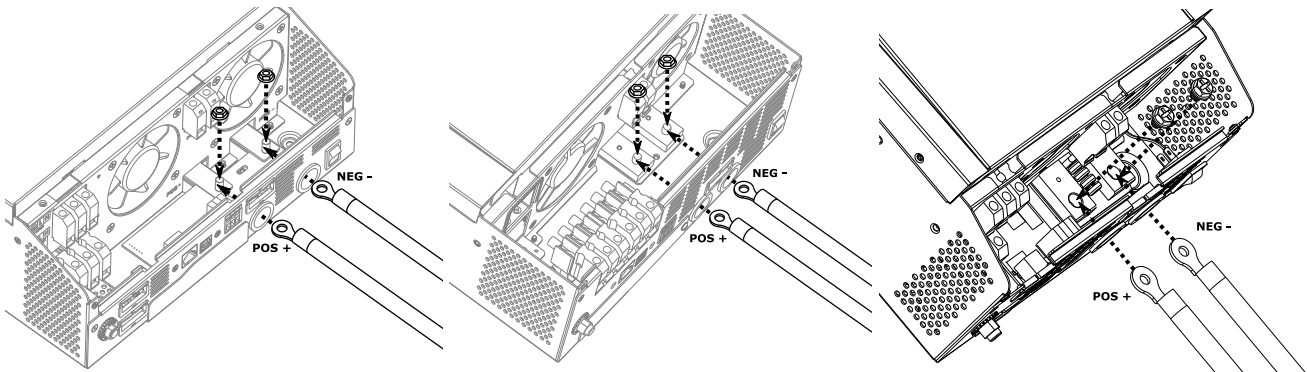

Figure 6: Battery cable connection
8. Insert the ring terminal of the battery cable flatly into the battery connector screws of the inverter, then tighten the M6 nuts / screws with a torque of 2 - 3 Nm (see *Figure 6*). Make sure the polarity at both the battery and the inverter is correct and the ring terminals are tightly screwed to the battery terminals, ensuring a good electrical connection.